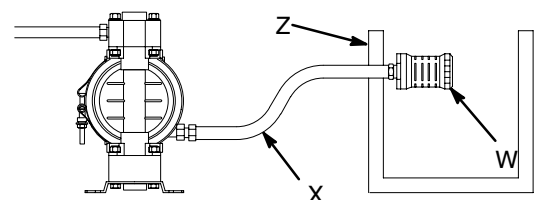

Fig. 2
A bleed-type master air valve (B) is required in your system to relieve air trapped between this valve and the pump. See Fig. 2. Trapped air can cause the pump to cycle unexpectedly, which could result in serious injury, including splashing in the eyes or on the skin, injury from moving parts, or contamination from hazardous fluids.
1. Install the air line accessories as shown in Fig. 2. Mount these accessories on the wall or on a bracket. Be sure the air line supplying the accessories is electrically conductive.
- a. The fluid pressure can be controlled in either of two ways. To control it on the air side, install an air regulator (G). To control it on the fluid side, install a fluid regulator (J) near the pump fluid outlet (see Fig. 2).
- b. Locate one bleed-type master air valve (B) close to the pump and use it to relieve trapped air. Read the **WARNING** above. Locate the other master air valve (E) upstream from all air line accessories and use it to isolate them during cleaning and repair.
- c. The air line filter (F) removes harmful dirt and moisture from the compressed air supply.
2. Install an electrically conductive, flexible air hose (C) between the accessories and the 1/4 npt(f) pump air inlet. Use a minimum 1/4 in. (6.3 mm) ID air hose. Screw an air line quick disconnect coupler (D) onto the end of the air hose (C), and screw the mating fitting into the pump air inlet snugly. Do not connect the coupler (D) to the fitting yet.
A fluid drain valve (H) is required in your system to relieve pressure in the hose if it is plugged. See Fig. 2. The drain valve reduces the risk of serious injury, including splashing in the eyes or on the skin, or contamination from hazardous fluids when relieving pressure. Install the valve close to the pump fluid outlet.
1. Use electrically conductive fluid hoses (K). The pump fluid outlet is 1/2 in. or 3/4 in. Screw the fluid fitting into the pump outlet snugly. **Do not over-tighten.**
2. Install a fluid regulator (J) at the pump fluid outlet to control fluid pressure, if desired (see Fig. 2). See **Air Line**, step 1a, for another method of controlling pressure.
3. Install a fluid drain valve (H) near the fluid outlet. Read the **WARNING** above.
Diaphragm failure will cause the fluid being pumped to exhaust with the air. Place an appropriate container at the end of the air exhaust line to catch the fluid. See Fig. 2 .
See **Venting Exhaust Air** in Fig. 2. Exhaust to a remote location as follows:
1. Remove the muffler (W) from the pump air exhaust port.
2. Install an electrically conductive air exhaust hose (X) and connect the muffler to the other end of the hose. The minimum size for the air exhaust hose is 3/8 in. (10 mm) ID. If a hose longer than 15 ft (4.57 m) is required, use a larger diameter hose. Avoid sharp bends or kinks in the hose.
3. Place a container (Z) at the end of the air exhaust line to catch fluid in case a diaphragm ruptures. See Fig. 2.
1. Fig. 2 and Parts Drawings. Follow preceding steps 1 through 8 of **Starting and Adjusting Pump**.
2. Open air regulator (G).